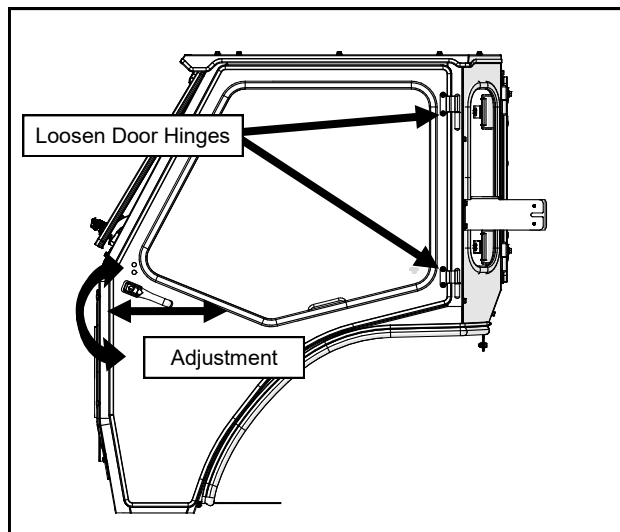

Fig. 23.2a (Door Hinge Adjustment)
- 23.2** Loosen the door hinges to allow for adjustment later. Hang the left door on the hinges. While lifting up and forward on the door handle, line up the door latch with the striker pin and carefully attempt to latch. You should be able to hear 2 clicks as you slowly engage the latch on the pin. If the latch is too far forward or back to latch on the pin, adjust as shown. See Figures 23.2a through 23.2c. Then retighten and latch.